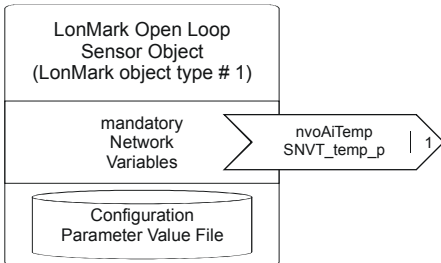

Fig. 6. Open Loop Actuator Object
- one open loop actuator object (#3) (see Fig. 6)